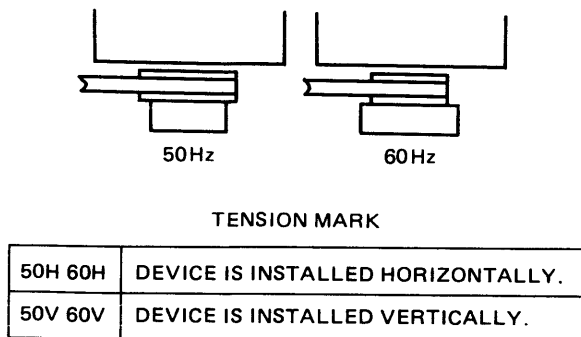
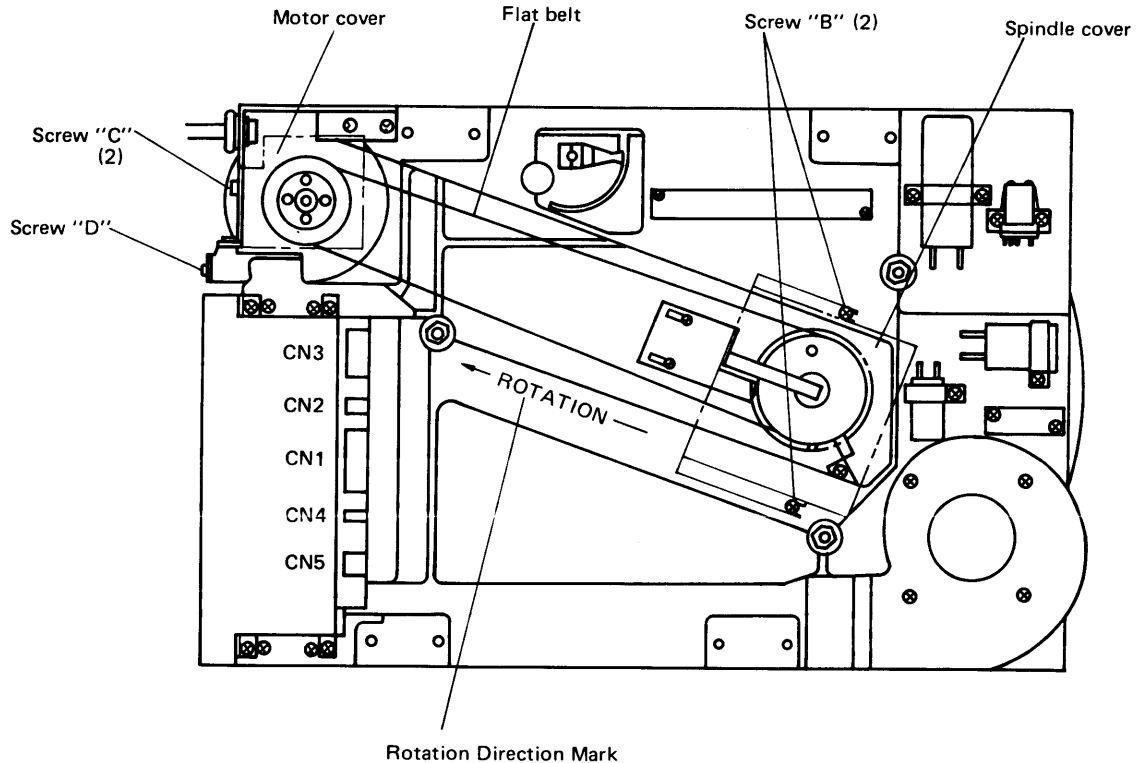

Figure 6-5-6 Pulley label
Figure 6-5-7 Belt Replacement
According to power line frequency and type of device installation, there are four setting positions (reference lines). The relation between installation position and line frequency are shown on pulley label put on motor cover. Pulley label is shown in Fig. 6-5-6.
- (1) Loosen screws "B" (2) and remove screws "C" (2) shown in Fig. 6-5-7, and remove spindle cover and motor cover.
- (2) Lock spindle (see para. 3.4.3).
- (3) Loosen belt by loosening screw "D" of Fig. 6-5-6 with a hexagon wrench, and remove belt.
To replace and adjust spindle grounding plate proceed as follows (see Fig. 6-5-7).